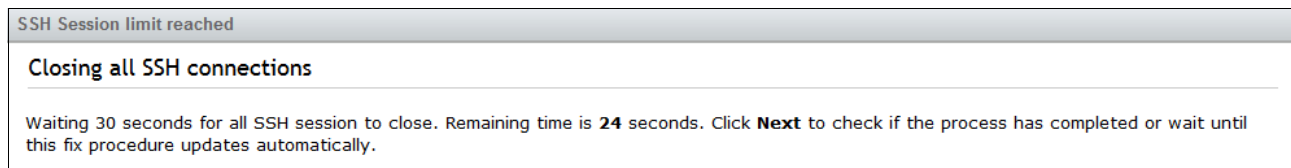

Figure 7-19 Warning about closing all SSH connections
- c. A warning that all CLI connections will be closed is displayed (Figure 7-19). Click **Next** to determine whether the process is completed.